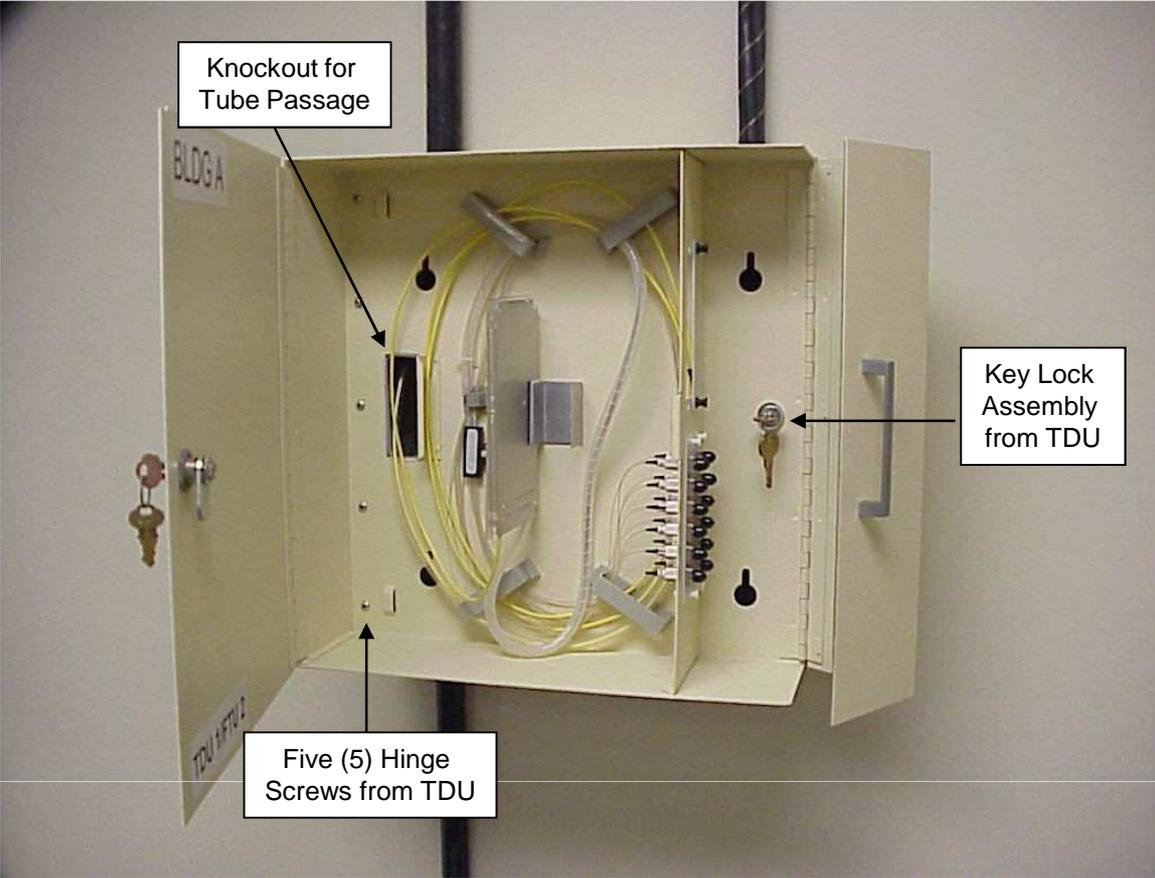

Figure 11
10.4 To accomplish a Tandem-Mount TDU & FTU installation, perform the following steps. **See Fig. 11.**